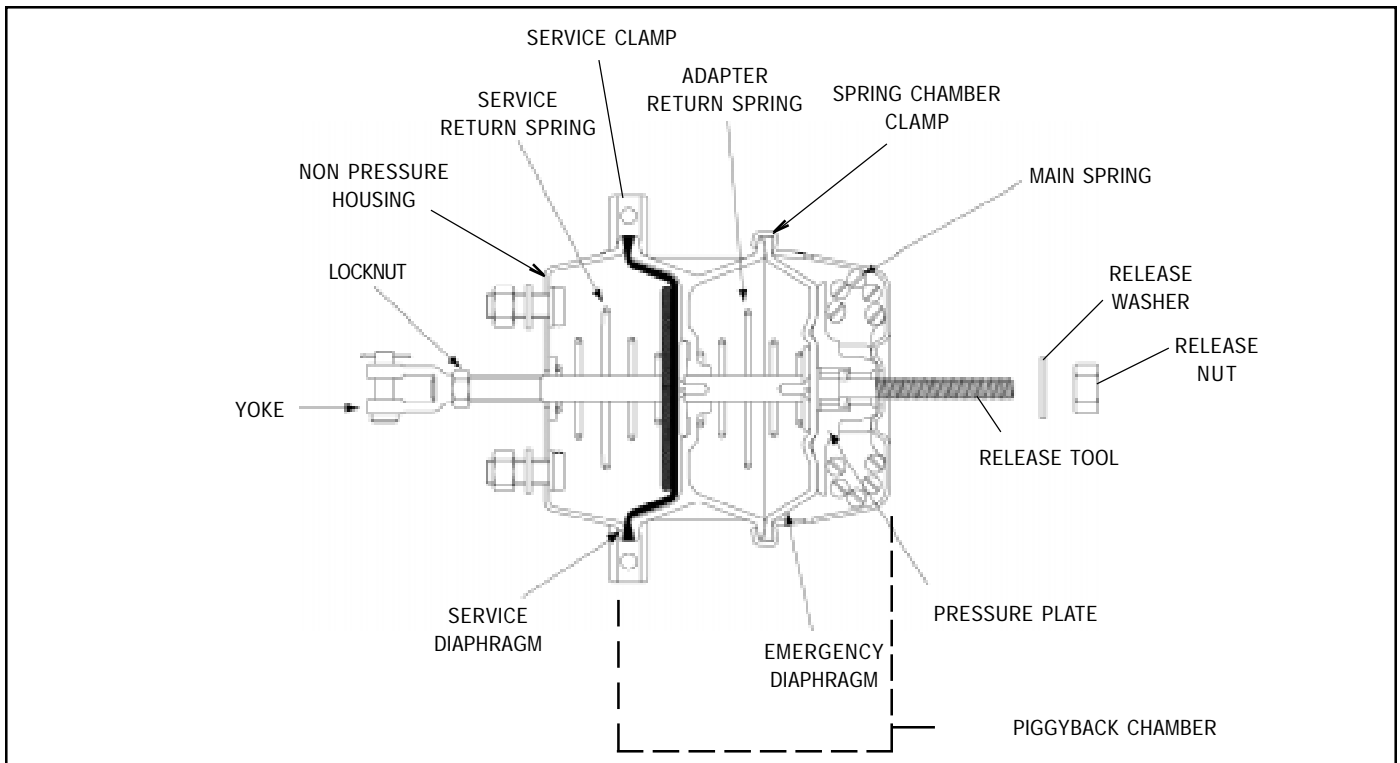

FIGURE 3 - BENDIX PIGGYBACK SPRING BRAKE
3. Insert the release tool (T-bolt) through the release tool keyhole and into the pressure plate. See figure 3.